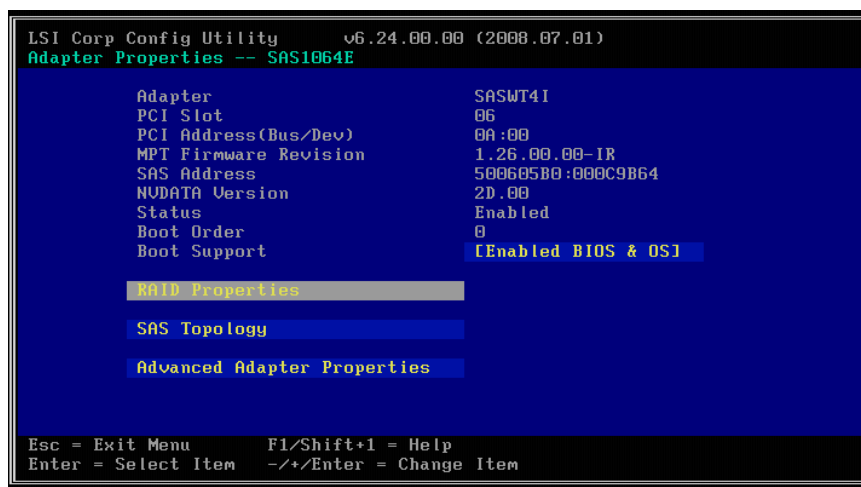

Figure 10. Adapter Properties Screen
2. Press <Enter> to go to the Adapter Properties screen, shown in Figure 10.
- Press <Enter> to load the Adapter Properties screen, shown in Figure 10.
2. Press <Enter> to go to the **Adapter Properties** screen, shown in Figure 10.